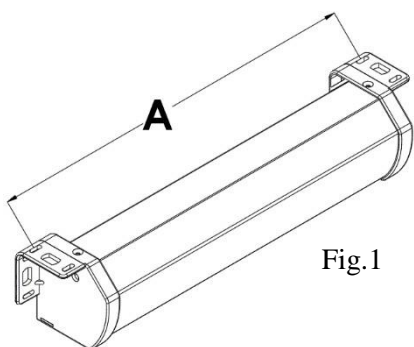

Fig.1
1. **Measure distance A** (Fig. 1) between the 2 holes on the backside of both end caps with a measuring tape. Mark and then drill the two screw holes on the wall. (**Note: Ensure the screen will be in perfect level alignment before drilling the screw holes.**)